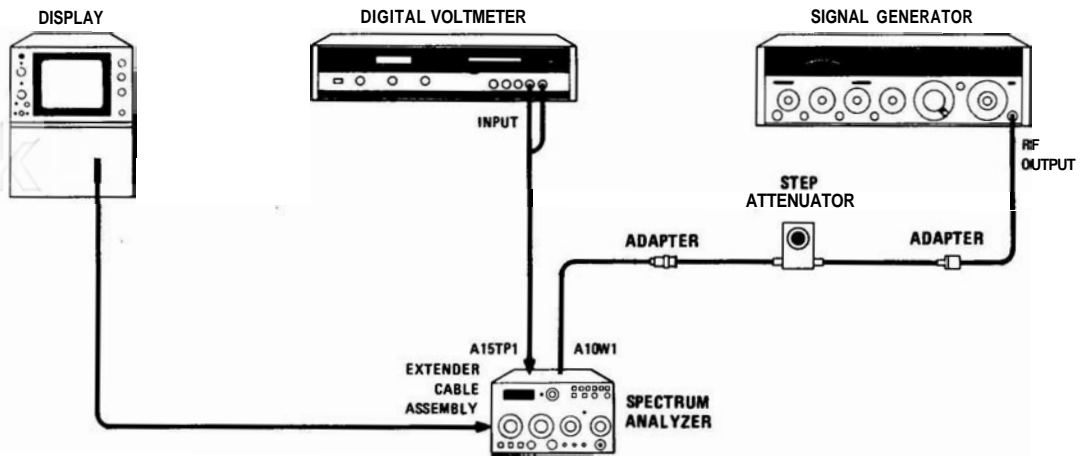

FIGURE 5-3. LOG AMPLIFIER LOG AND LINEAR ADJUSTMENT TEST SETUP
2. Connect equipment as shown in Figure 5-3. Set signal generator frequency to 321.4 MHz and output level to -40 dBm. Remove A10W1 from A5J2 2nd CONV OUT. Connect signal generator output through step attenuator and adapters to A10W1.
10. Reconnect signal generator as shown in Figure 5-3. Set Amplitude Scale to 10 dB/DIV and set step attenuator to 40 dB.